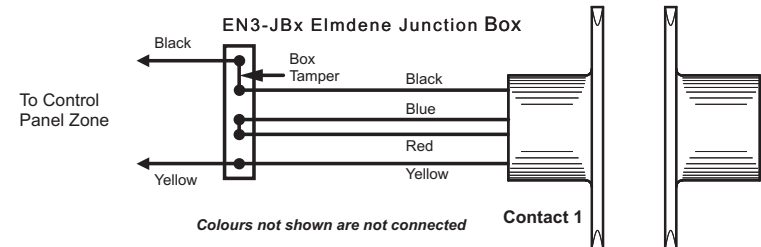

Figure 4
- Fully supervised loop - Double leaf doors - Series mode connection - Figure 4